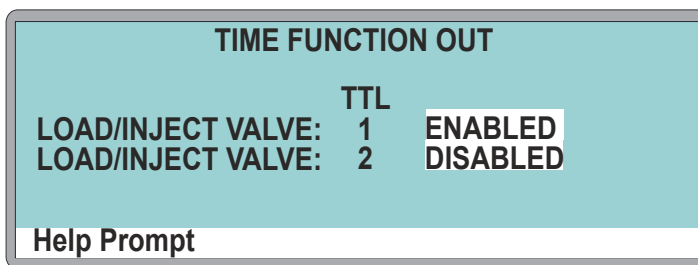

Figure 41. AS50 Time Function Out Screen
1. On the AS50 front panel, press **Menu** and **0** to go to the **TIME FUNCTION OUT** screen (see Figure 41). In the **LOAD/INJECT VALVE:** **TTL 1** field, select **ENABLED**.